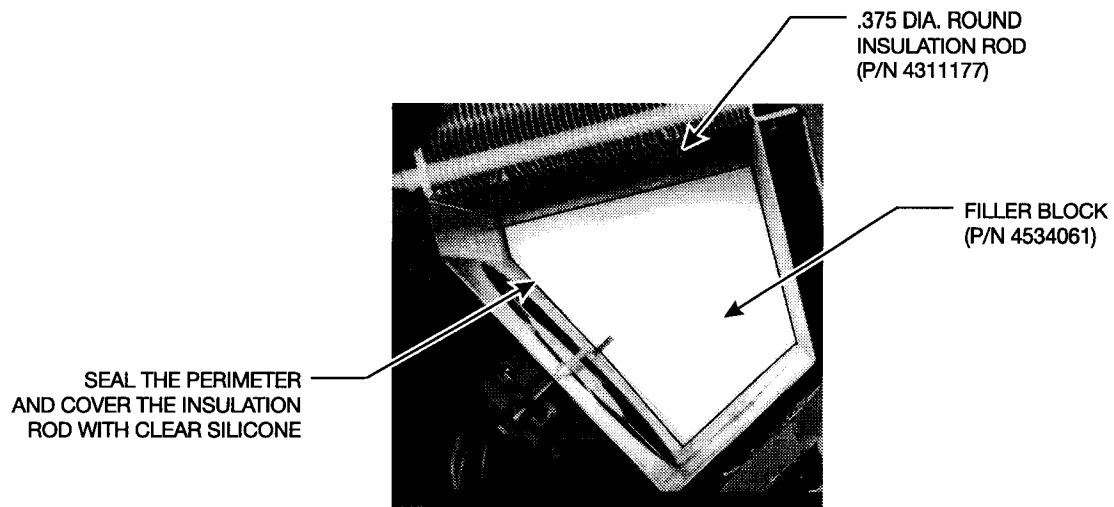

Figure 28
19. Slide the filler block down to the chassis with the groove facing up. **See Figure 28.**
20. Press 6 inches of .375 round insulation rod (4311177) into the bottom of the groove between the filler and the condensate pan. **See Figure 28.**
21. Seal the perimeter of the filler and along the insulation rod seam with silicone. ***Be careful to not block any fins.*** **See Figure 28.**